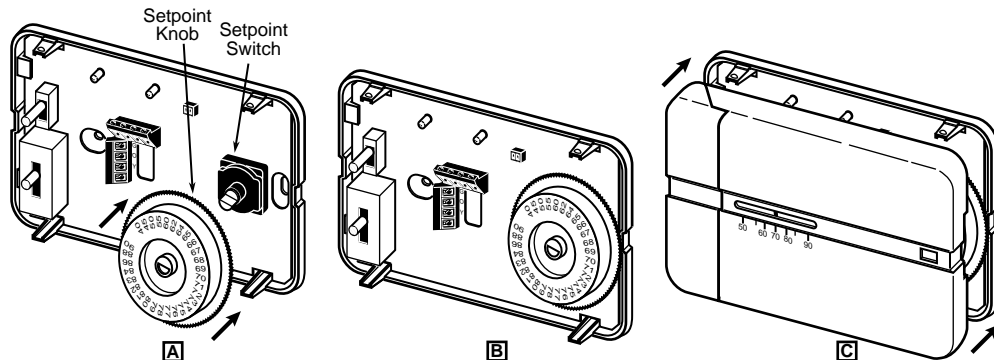

Figure 5. Attach setpoint knob and cover
2. Carefully press setpoint knob onto setpoint switch (see fig. 5).